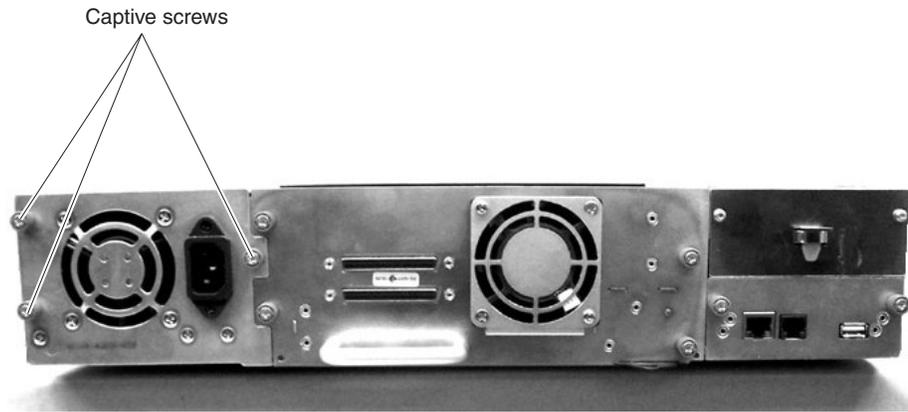

Figure 8. Removing the power supply
4. Pull the power supply out of the autoloader chassis as shown in Figure 8 on page 24.